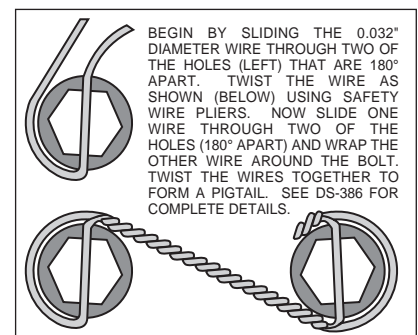

Figure 3. Safety Wire Diagram
- Identify the left and right caliper mounting brackets (1). Both brackets will be offset to the rear of the vehicle with the threaded inserts and the beveled bolt holes facing the outside of the vehicle. Apply red *Loctite*® 271 to bolt threads (2 and 5) before assembly of the caliper bracket (1) to dust face plate of spindle. Insert the two upper mounting bolts (2) and the lower mounting bolt (5) through the caliper mounting bracket (1). Install two lock nuts (4) on the upper mounting bolts (2) and finger tighten. Install one washer (6) and one nut (7) on the lower mounting bolt (5) and finger tighten. Torque two bolts (2) to 47 ft-lb. Torque bolt (5) and (3) to 77 ft-lb. **NOTE:** Be sure the heads of the caliper bracket (1) insert nuts are facing outward toward the wheel.
- Install five new wheel studs (8) into the hub (9). Torque to 77 ft-lb. **NOTE:** There are two five lug patterns in the hub (5 x 4.00 and 5 x 4.50). Make sure of the correct hole pattern for the correct wheel application before installing studs into hub.
- Pack the large inner bearing cone (10) with high temperature disc brake bearing grease (available from your local auto parts store) and install into the backside of the hub (9). Install the grease seal (11) by pressing into the backside of the hub (9).
- Attach rotor adapter (12) to rotor (13) using six bolts (14). Using an alternating sequence, apply red *Loctite*® 271 to the threads and torque bolts to 25 ft-lb. For an added measure of security, the bolts may be safety wired using standard 0.032 inch diameter stainless steel safety wire as shown in Figure 3. Please refer to Wilwood's data sheet DS-386 for complete safety wire installation instructions. **NOTE:** The flat side of the rotor (13) lugs face toward the rotor adapter (12) with the dished side of the rotor adapter (12) facing away from the rotor (13).